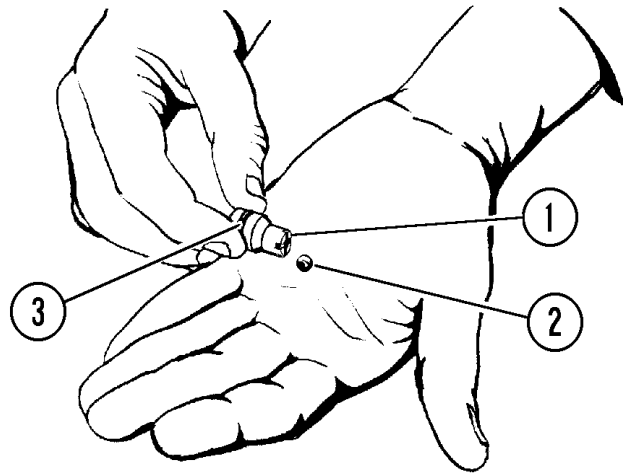
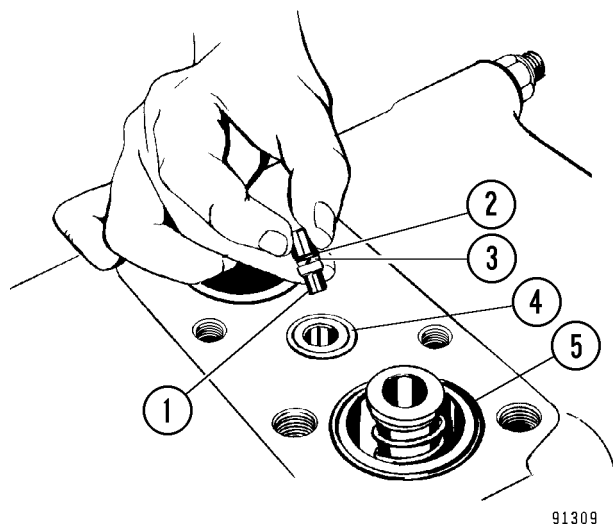

FIGURE 8-7. POPPET AND BALL
FIGURE 8-8. RESTRICTOR POPPET REMOVAL
3. Remove poppet (1, Figure 8-7) from spool cover. Remove and discard O-ring (3).
**NOTE:** The poppet (1) contains a small steel ball. Do not misplace.
4. Remove and discard O-rings (4) and (5, Figure 8-8).
5. Remove restrictor poppet (1). Remove and discard O-ring (2) and backup ring (3), if used. Note the position of the restrictor when removed to ensure correct reassembly.
8. If used, install O-ring (2, Figure 8-8) and backup ring (3) on restrictor poppet (1). Install the poppet in the spool housing as shown in Figure 8-9.
9. Install new O-rings (4), (5) and (10).